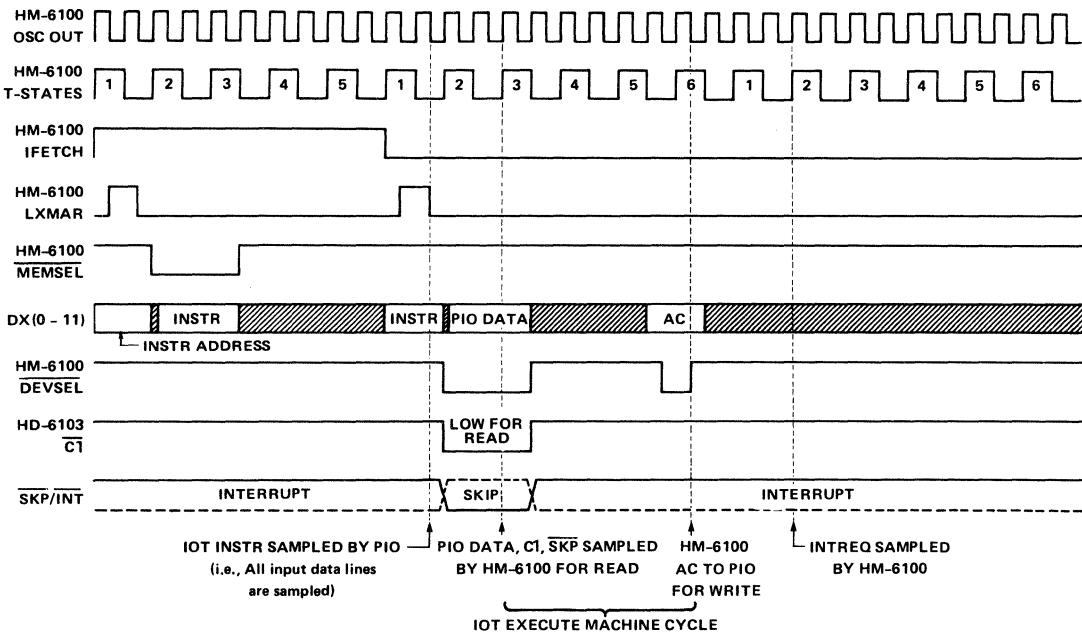

FIGURE 3 – HD-6103 System Timing Diagram
The three-state bi-directional 12-bit DX bus is used to transfer data and control information (Fig. 3) between the HD-6103 and the HM-6100 microprocessor. The HM-6100 transmits the device address and control information on the DX bus during the 'execute' phase of an Input-Output Transfer (IOT) instruction. The HD-6103 accepts this information on the falling edge of the LXMAR (Address Latch Enable) Signal.
externally hard-wired to match the DX6 and DX7 chip select bits. As shown in Fig. 3, DEVSEL goes low, during the first half of an IOT execute machine cycle for a read operation and it goes low again in the second half for a write operation. The HD-6103 responds to a 'read' instruction by putting data on the DX bus and C1 output (of HM-6100) low when DEVSEL (from HM-6100) input is low. C1 line goes low to indicate an input transfer cycle to the HM-6100. All PIO data transfers to the HM-6100 Accumulator (AC) is an 'OR' transfer, (i.e., PIO data is OR'ed into the contents of the AC).